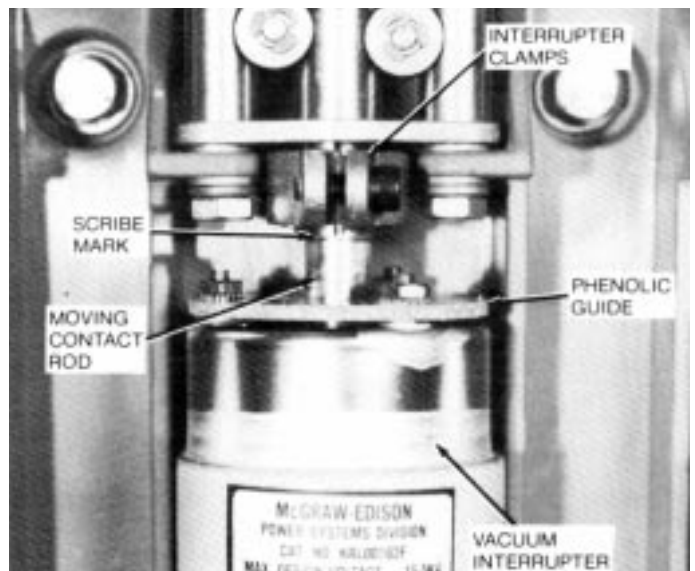

Figure 11. Scribe mark on moving contact rod indicates amount of contact erosion. 85714KM-A
- A. Locate the scribe mark on the moving contact rod at the top of each vacuum interrupter, Figure 11.